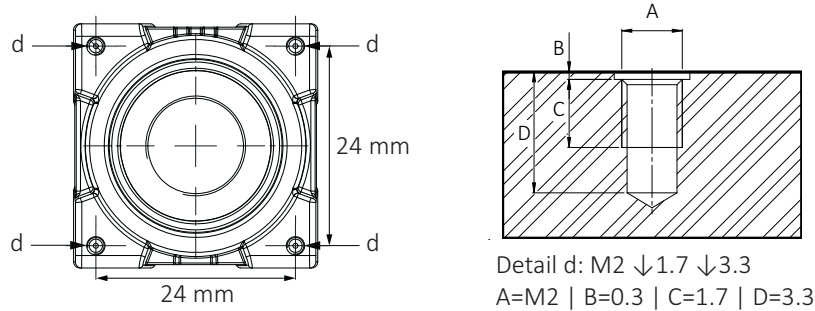

Figure 13: Camera front with mounting threads (c)
1. Mount the camera to the base using suitable M2 screws at 0.17 Nm maximum torque for a thread engagement (C) of 1.7 mm between screws and mounting threads, see Figure 13. For technical drawings, see G1 Closed Housing: Dimensions and mass on page 153.